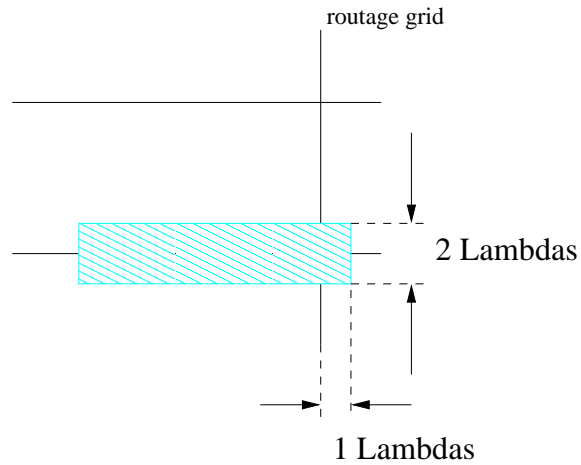

Figure 6: Low size of CAU1
- The minimal width of CALu1 is 2 lambda, plus 1 lambda for the extension (figure 6).